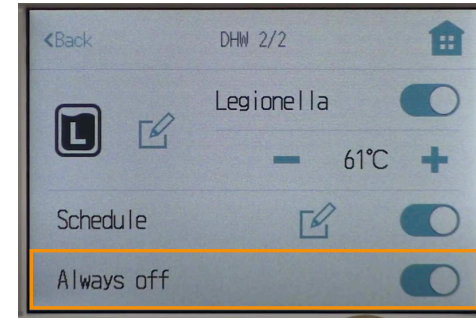

figure 9
17. Set the 'Always off' toggle to ON (figure 9).